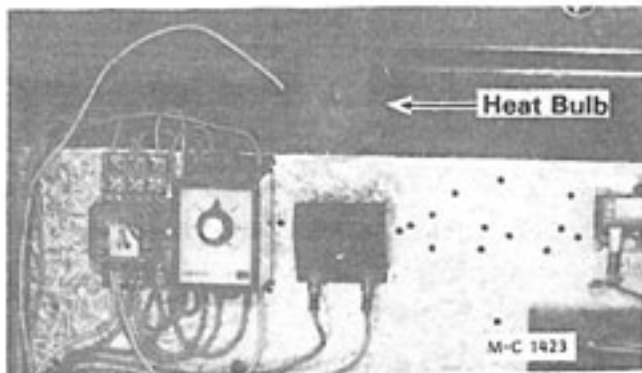

Figure 27
1. The heat bulb in the upper control cabinet, Figure 27, will always be on when the electric power supply to the dryer is on. It does not have an ON-OFF switch.